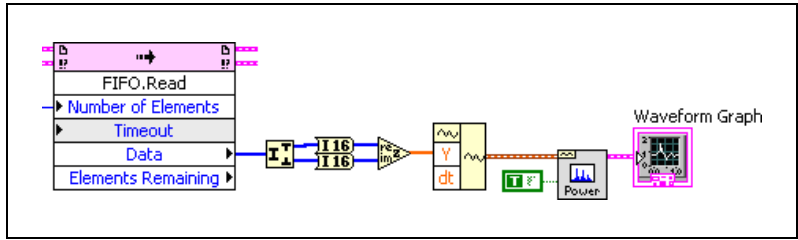

Figure 19. Analyzing the Data
26. Ensure that your block diagram is wired as shown in Figure 19.